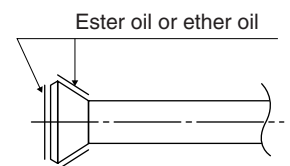

Fig. 22
- When connecting the flare nut, apply ester oil or ether oil to the flare section (both inside and outside), and spin 3-4 times before screwing in. (Refer to Fig. 22 )